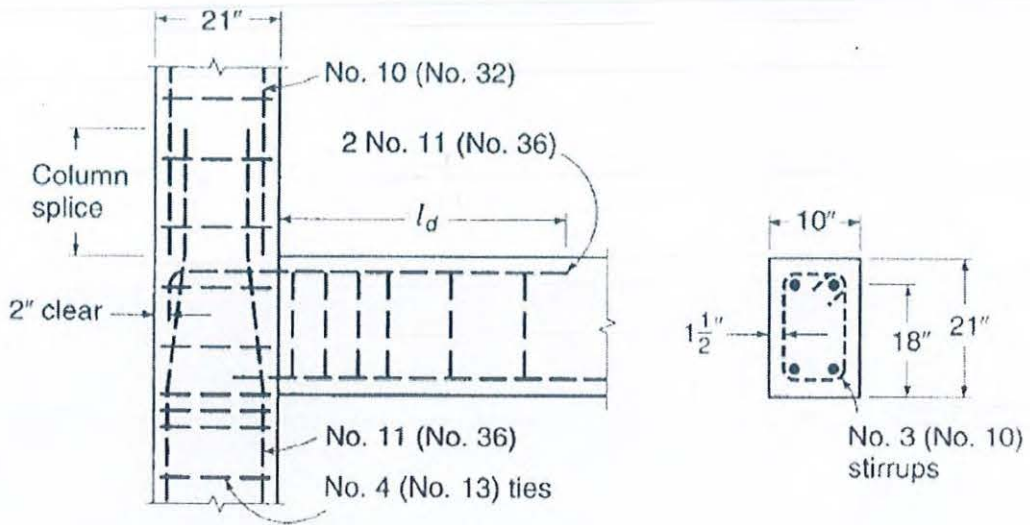

Figure:4
6. A beam section as shown in Figure 4 is made of normal density concrete and reinforced with 2-#11 bars, whereas the reinforcement required from structural analysis is 2.90 in^2 , in addition to 4-#3 stirrups @ 3" c/c, followed by #3 stirrups @ 5" c/c. Cross section of the column is 21" x 16". Analyze the beam and calculate the development length as well as splice length of the column rebar as per BNBC. Use $F_y = 420$ MPa and $f_c' = 28$ MPa. (12)